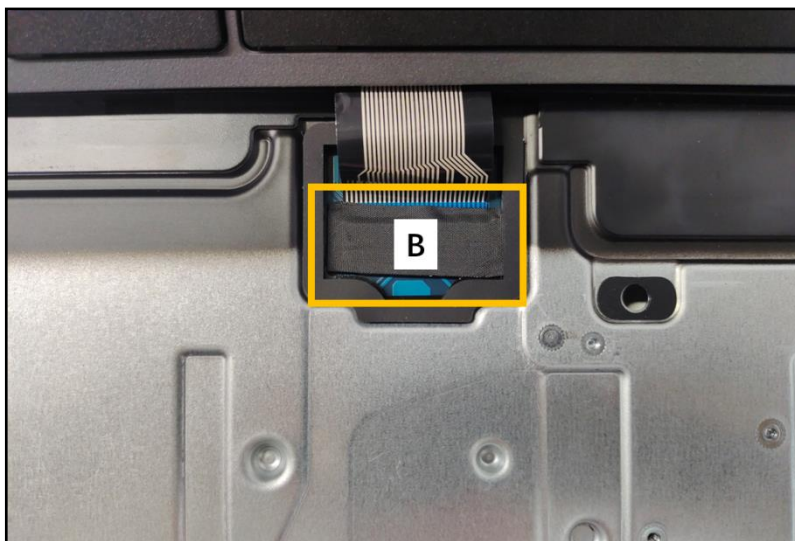

Figure 3-105. Replacing the Keyboard
2. Detach the tape (B) to secure the keyboard FPC connection (Figure 3-105).